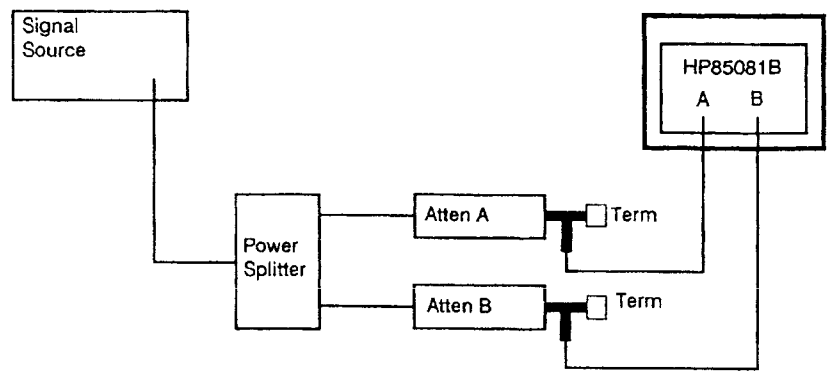

Figure 4-5. Phase Accuracy vs Level Test Setup
1. Configure the Test Equipment as shown in Figure 4-5 with the power splitter and probe tees connected directly to the attenuator.